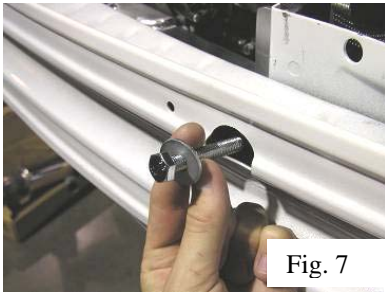

Fig. 7
- 22) Install the four supplied 8mm x 50mm long bolts and washers in place of the bolts removed in step 17. Screw them in until they protrude about 1/4" from the opposite side (Fig. 7).